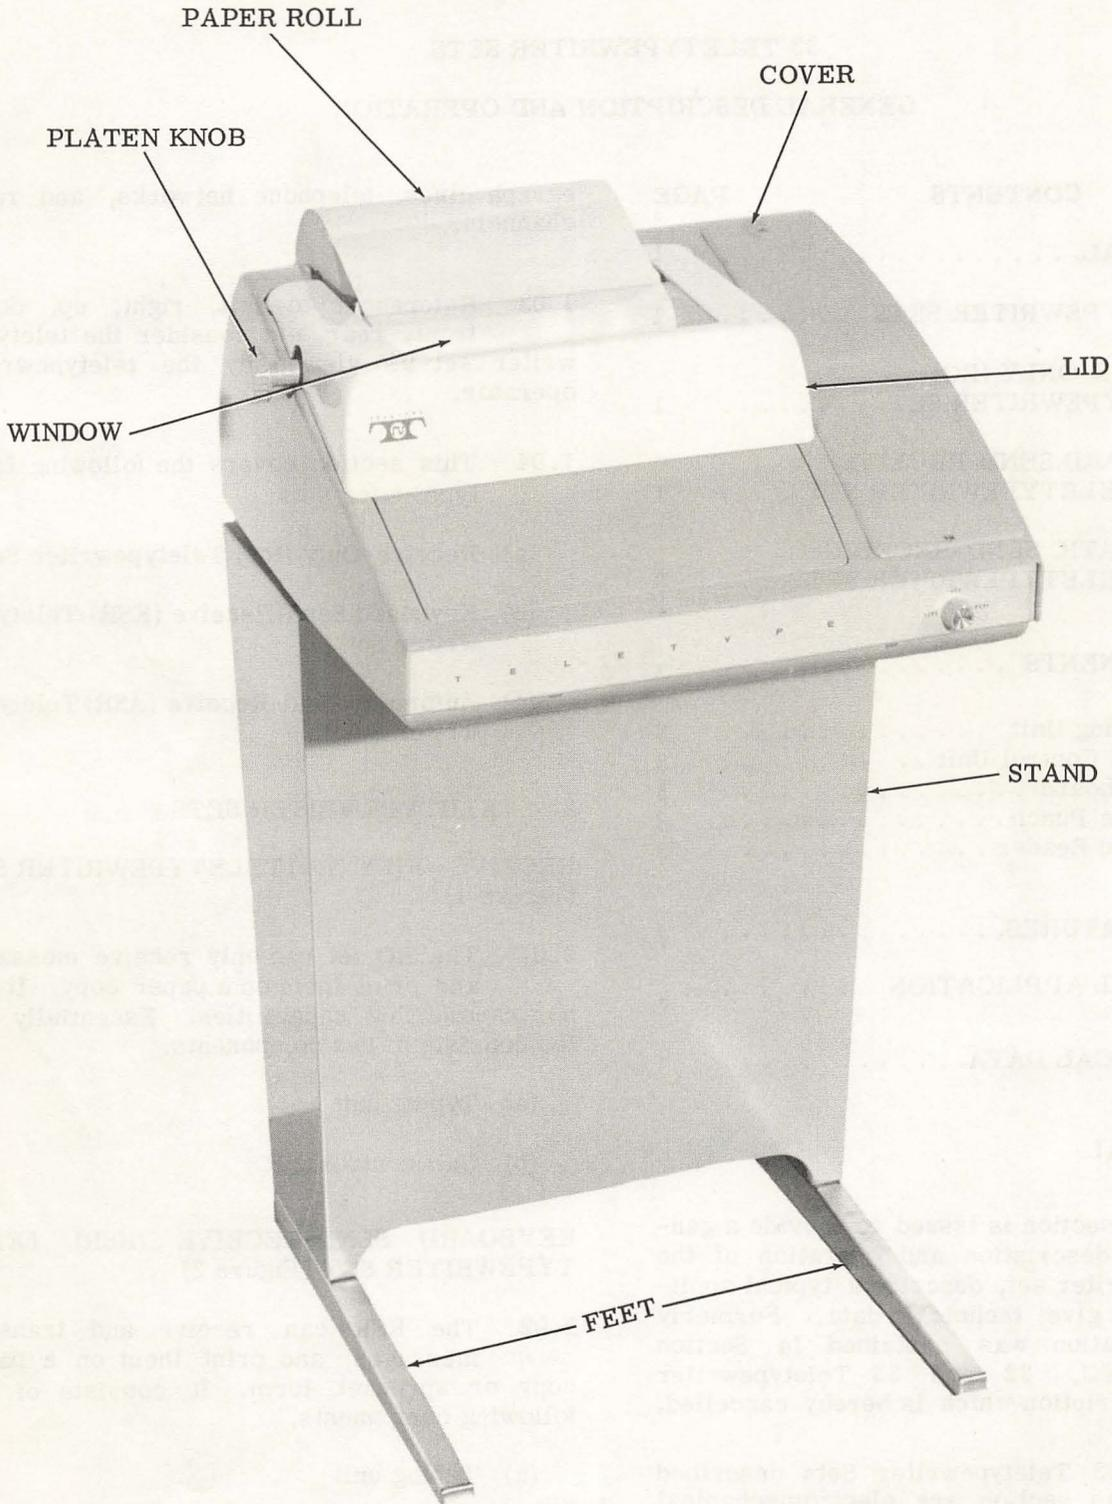

Figure 1 - Model 33 Receive-Only (RO)
RECEIVE-ONLY (RO) TELETYPEWRITER SET (Figure 1)